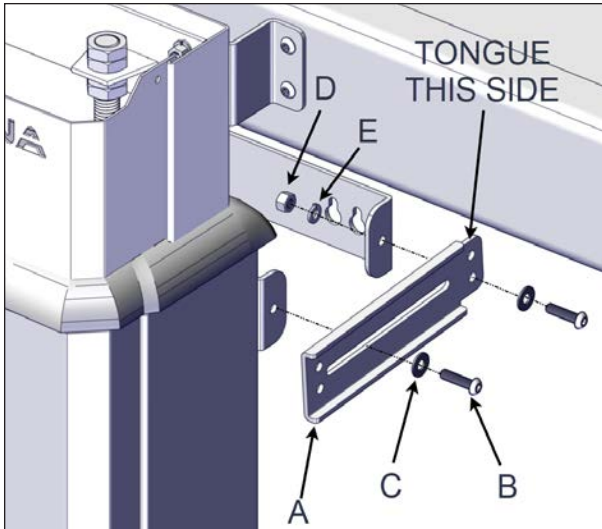
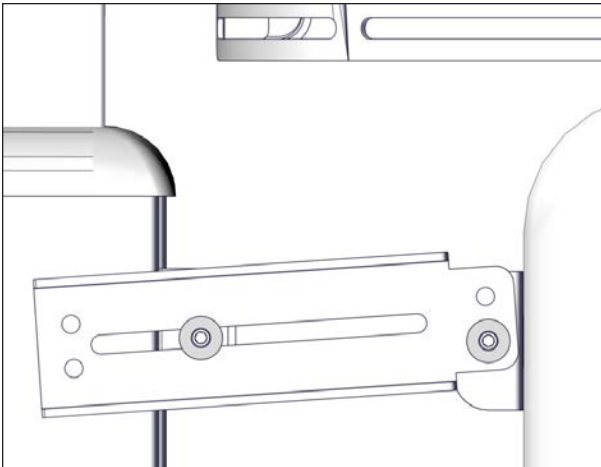

FIGURE 86: MOUNT BRACKET ARM INSTALLATION
FIGURE 87: MOUNT BRACKET ARM SIDE VIEW
20. Attach the top mount bracket arms to the tub mount brackets using the 1/4" x 1" socket head screws, 1/4" flat washers on the outside. Use a 1/4" lock washer and 1/4" nut on the inside. Use a 5/32" (4 mm) drive and 7/16" (11 mm) spanner, see Figure 86 and Figure 87
The rounded tongue section of the bracket should always be mounted on the spa side see Figure 86.